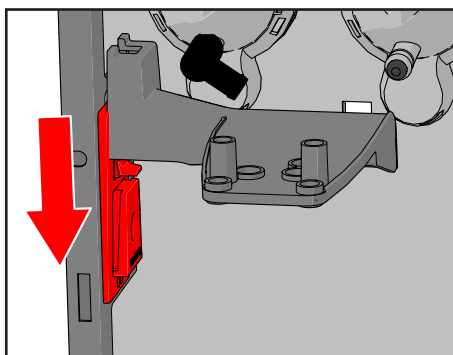

Figure 47.
18. Click the spout arm back onto the cabinet (see Figure 47).